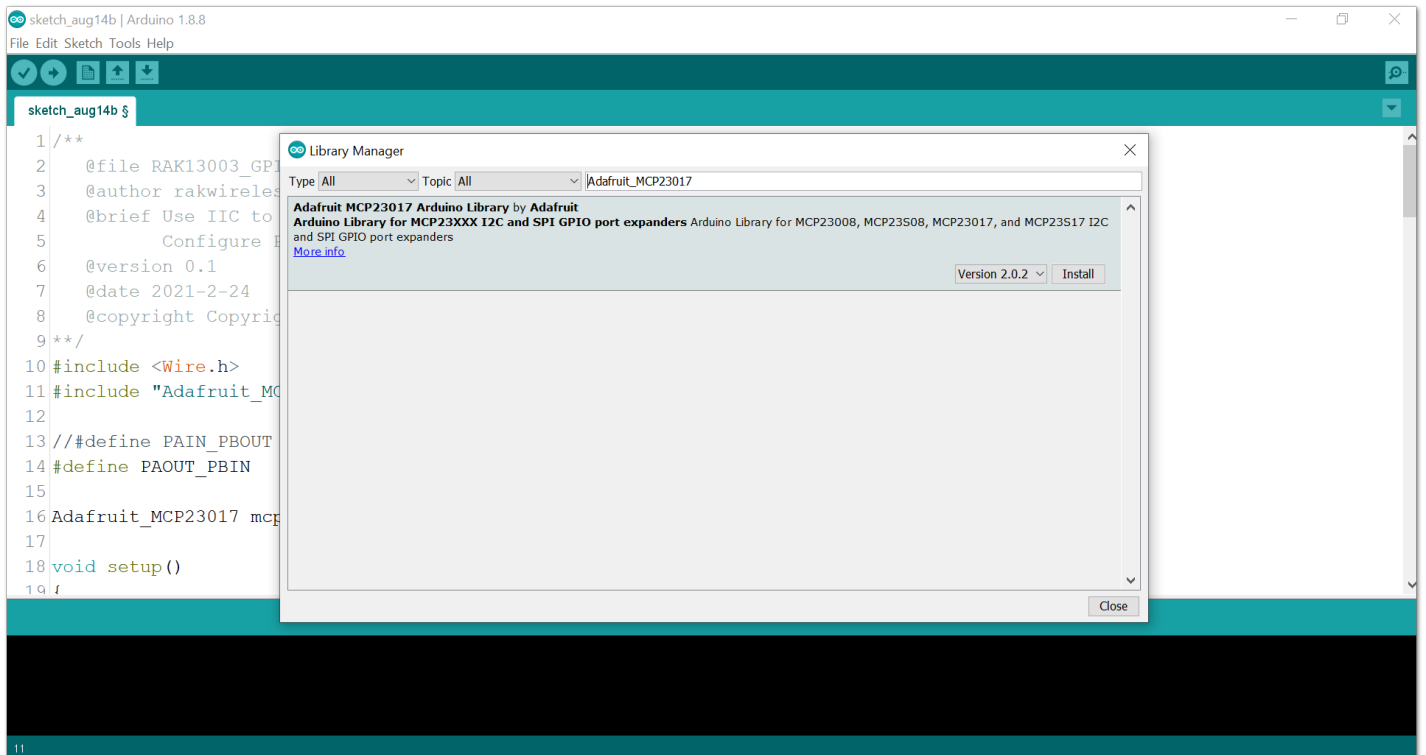

Figure 15: Installing the Library
3. Install the required library, as shown in **Figure 15**.